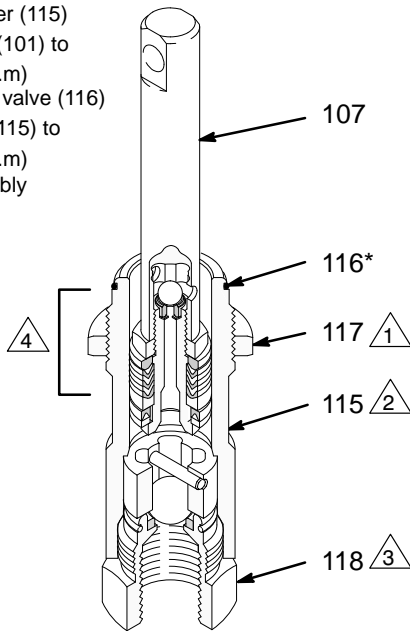

Fig. 21 05118
11. Place a new o-ring (116*) firmly in the cylinder groove. See Fig. 21.
12. Coat the piston rod and packings with oil. Carefully slide the assembly **into the top of the cylinder (115)**. See Fig. 21.
13. Put the manifold upside down in a vise. Fully thread the jam nut (117) onto the cylinder (115). Guide the rod/cylinder assembly down through the manifold (101). Screw the cylinder (115) into the manifold. See Fig. 21.
15. Torque the cylinder jam nut (117) to 73 ft-lb (98 N.m). See Fig. 21.